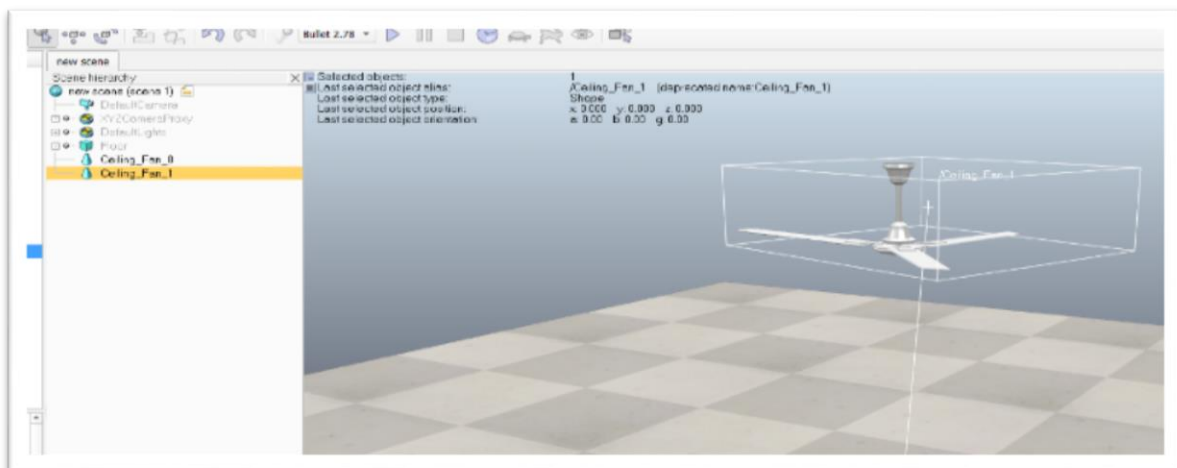

Fig. 1: the model imported into the IDE [source: Author's]
- 6) We observed that one fan appeared inside the IDE, depicted in Figure 1. the two imported objects are listed under the Scene hierarchy: “Ceiling_Fan_0” and “Ceiling_Fan_1”. Our raw material came to the workspace. Before the next task, we need to know some tools to execute the rest task.